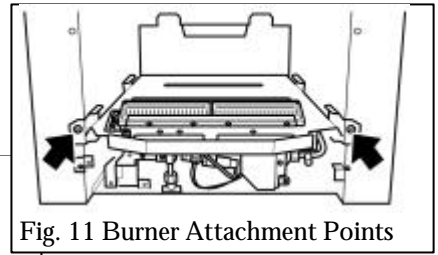

Fig. 11 Burner Attachment Points
6.1 Detach the burner unit from the convection box by removing two screws (see figure 11). Lift the burner unit clear.